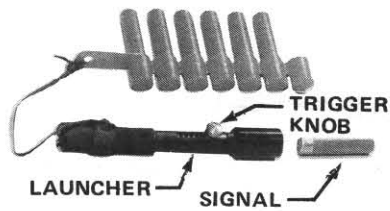

FIG. 2
- PULL TRIGGER KNOB TO THE REAR OF SLOT WITH THUMB AND RELEASE QUICKLY (FIGURE 2).